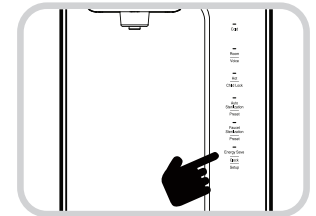

Fig. 16
1. Press the Energy Save/Clock (Setup) button for three (3) seconds in the Waiting Status to put the unit in the User Setting mode. (Fig. 16). The Voice Guide will say "selecting user setting mode" "user setting mode, please set function by pressing the illuminated button".